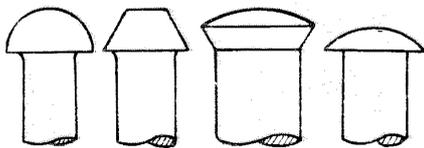

Fig.2.1
4. The rivet heads used for general purposes shown in Fig. 2.1 (from left to right) are